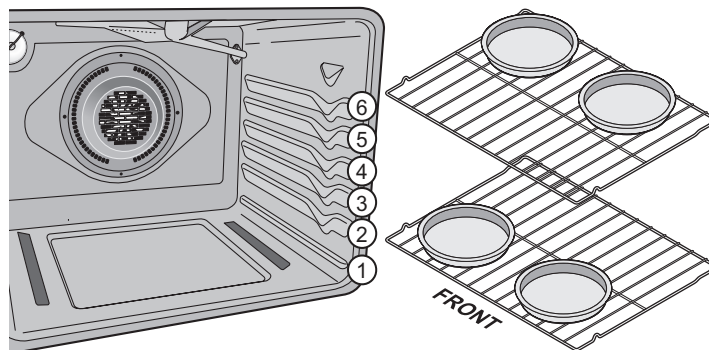

Figure 12: Pan positions for two-rack baking
- For best results when baking cakes using two oven racks, place racks in positions 3 and 5 (See Figure 12).
- When baking using two oven racks, position cookware as shown in Figure 12.